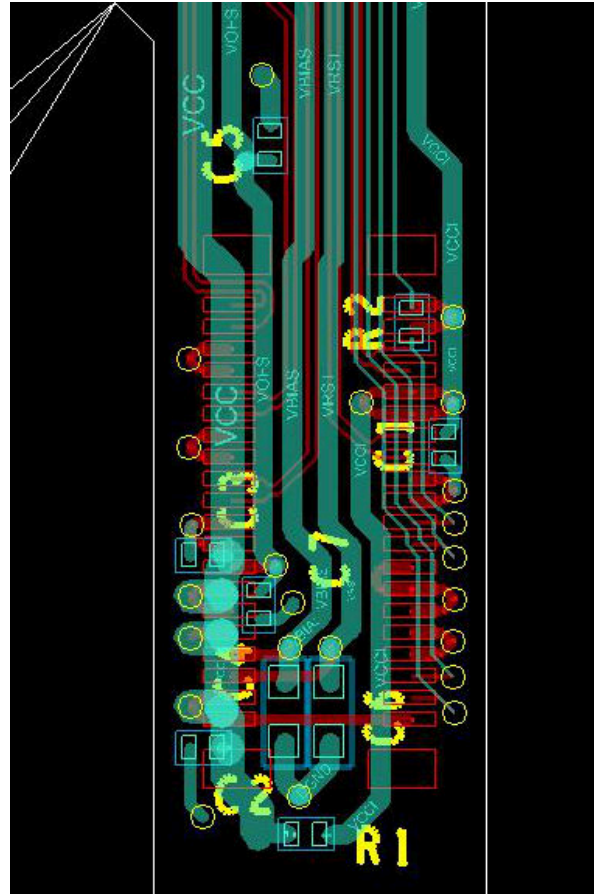

Figure 10-2. Power Supply Connections
- Minimum of 100-nF decoupling capacitor close to VBIAS. Capacitor C4 in Figure 10-2.
- Minimum of 100-nF decoupling capacitor close to VRESET. Capacitor C6 in Figure 10-2.
- Minimum of 220-nF decoupling capacitor close to VOFFSET. Capacitor C7 in Figure 10-2.
- Optional minimum 200- to 220-nF decoupling capacitor to meet the ripple requirements of the DMD. C5 in Figure 10-2.
- Minimum of 100-nF decoupling capacitor close to VCCI. Capacitor C1 in Figure 10-2.
- Minimum of 100-nF decoupling capacitor close to both groups of VCC pins, for a total of 200 nF for VCC. Capacitor C2/C3 in Figure 10-2.